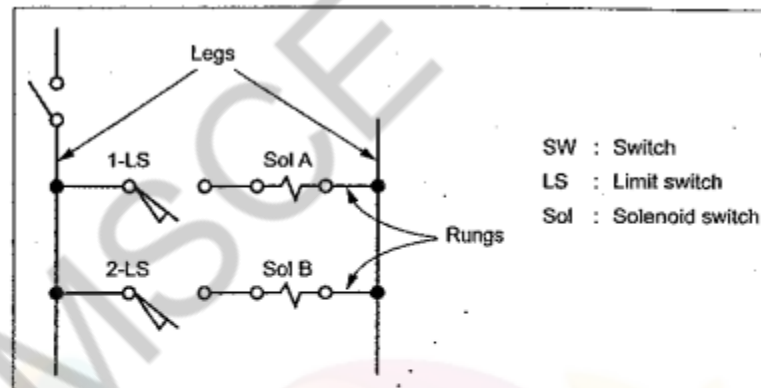

Fig. 9.9. Typical ladder diagram
Consider a typical ladder diagram as shown in Fig.9.9 for some application.
- ✓ **Legs and Rungs** : In Fig.9.9, the two vertical electrical power supply lines are called 'legs', and the horizontal lines containing electrical components are called 'rungs'.